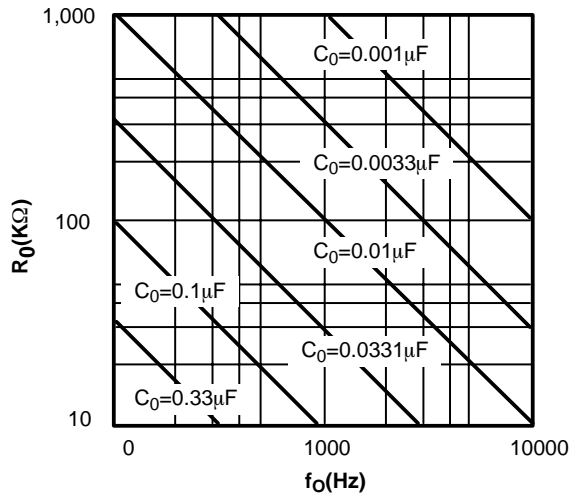

Figure 7. VCO Frequency vs. Timing Capacitor
- c) Calculate value of C_0 from design equation (1) or from Figure 7:
- b) Calculate value of C_0 from design equation (1) or from *Figure 7* $f_S = f_0$: